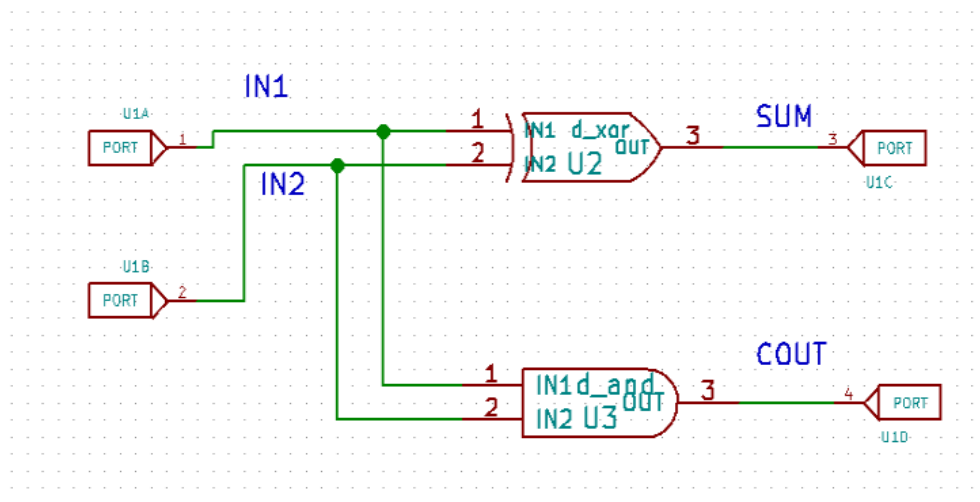
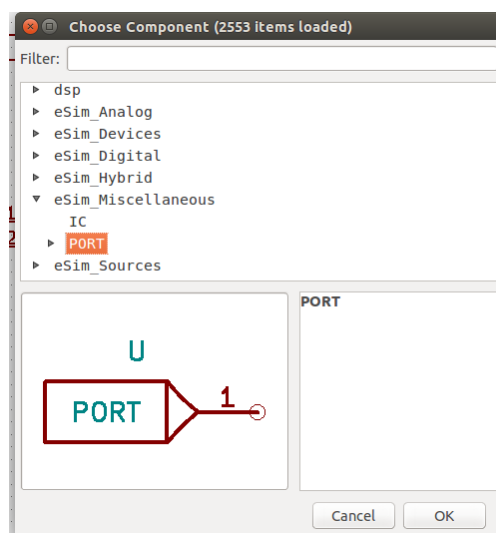

Figure 8.4: Half-Adder Subcircuit
Figure 8.5: Selection of PORT component
- Once you complete the circuit, assign port to each open node of your circuit which will be used to connect with the main circuit. The port should match with the number of input and output pin. The circuit will look like Fig. 8.4 after adding PORT to it. The PORT symbol can be found in Eeschema as shown in Fig. 8.5.